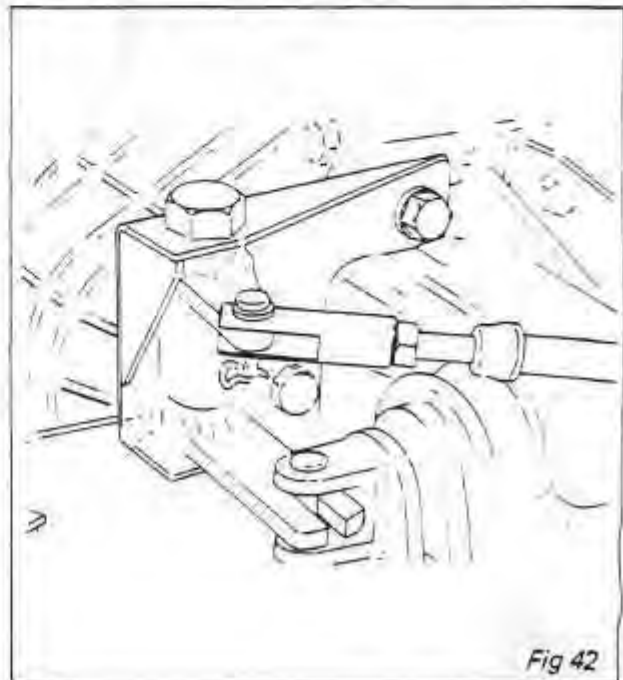

Fig 42
4. Lower vehicle and install gear shift trim plate on console. (Fig. 42)